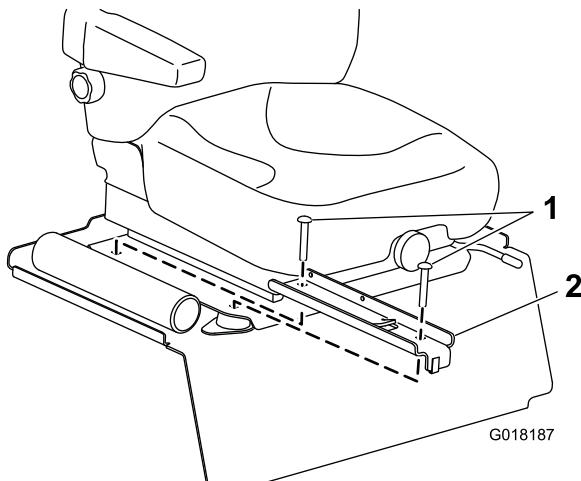

Figure 3
1. Attach the clip to the front hole in the joystick pod mounting bracket (Figure 3).
2. Install the joystick pod mounting bracket to the right side of the seat plate (Figure 3) using the longer carriage bolts and the nuts that you removed in step 3 of 2 Routing the Joystick Wire Harness (page 3).